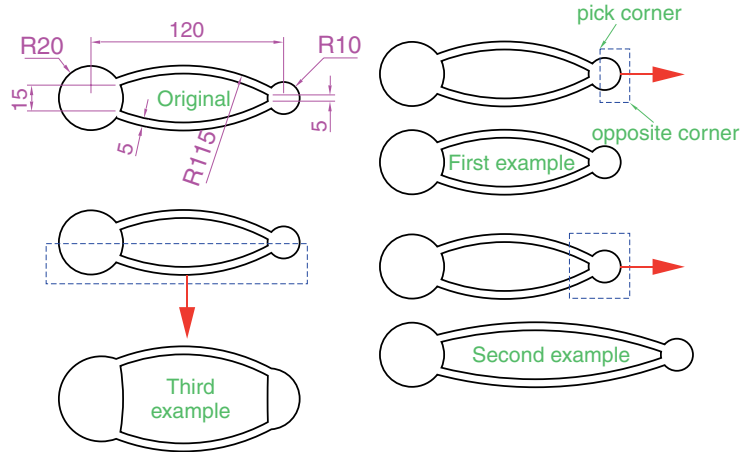

Fig. 5.33 Examples – **Stretch**
Examples – Stretch (Fig. 5.33)
- Construct the drawing labelled **Original** in Fig. 5.33, but do not include the dimensions. Use the **Circle**, **Arc**, **Trim** and **Polyline Edit** tools. The resulting outlines are plines of width=1. With the **Copy** tool make two copies of the drawing.
In each of the three examples in Fig. 5.33, the broken lines represent the crossing windows required when **Stretch** is used.
1. When circles are *windowed* with the crossing window, no stretching takes place. This is why, in the case of the first example in Fig. 5.33, when the **second point of displacement** was *picked*, there was no result – the outline did not stretch.